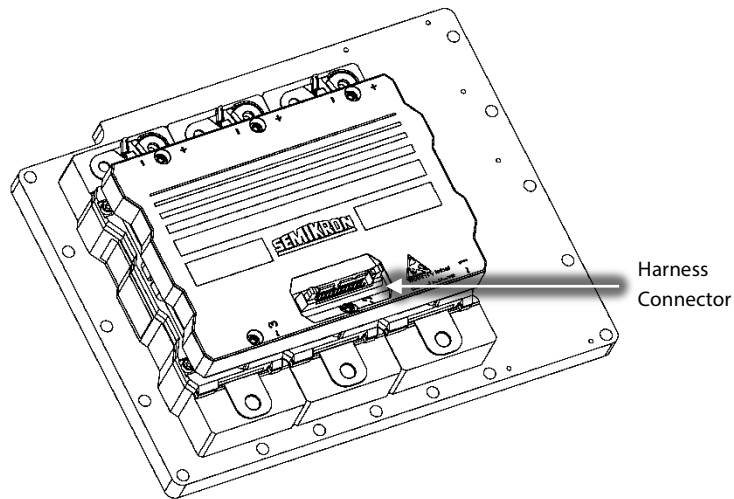

Figure 16 – Inverter Harness Removal
25. Remove the Inverter cable harness from the top of the Inverter. Refer to Figure 16 (Inverter Harness Removal).